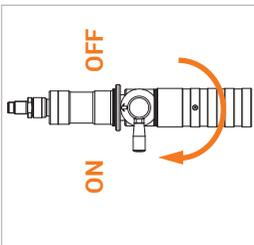

Figure 4
- ▶ Turn the actuation lever (Pos. 3) on the fueling nozzle through 180° to the ON position (Figure 4).